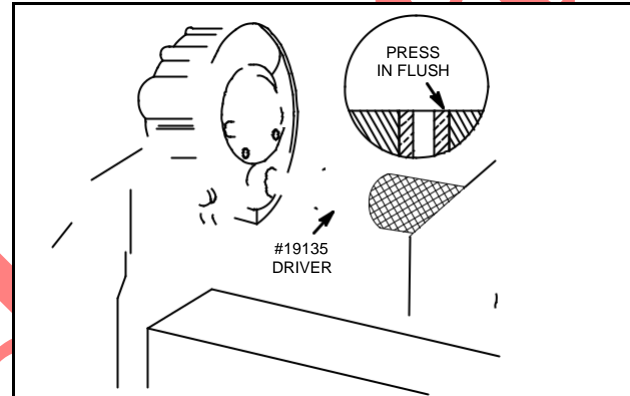

Fig. 25 – Install Seat
2. Press in seat with #19135 driver, Fig. 25.